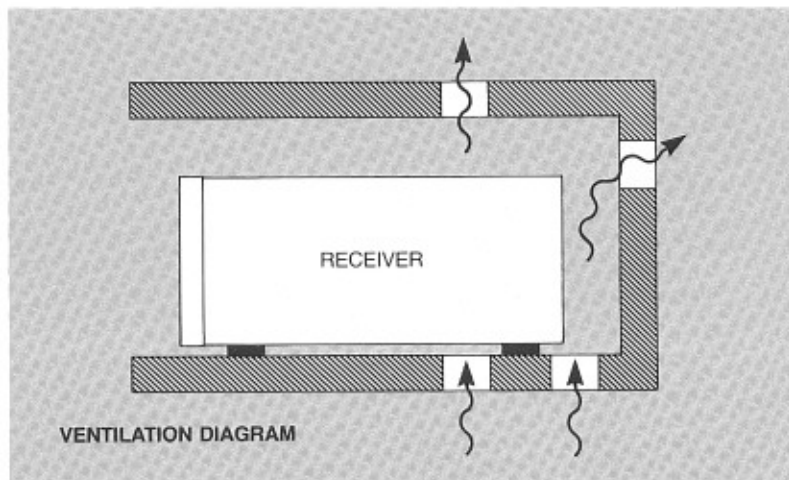

Figure 2
- Do not install the receiver in a totally enclosed cabinet. Although the Model 360 is a solid-state receiver and generates little heat, it does need a certain amount of ventilation. If you place the receiver in a cabinet, make sure that it has an open back or, at least, large ventilating holes or slots in the back of the cabinet both below and above the receiver (See Figure 2).